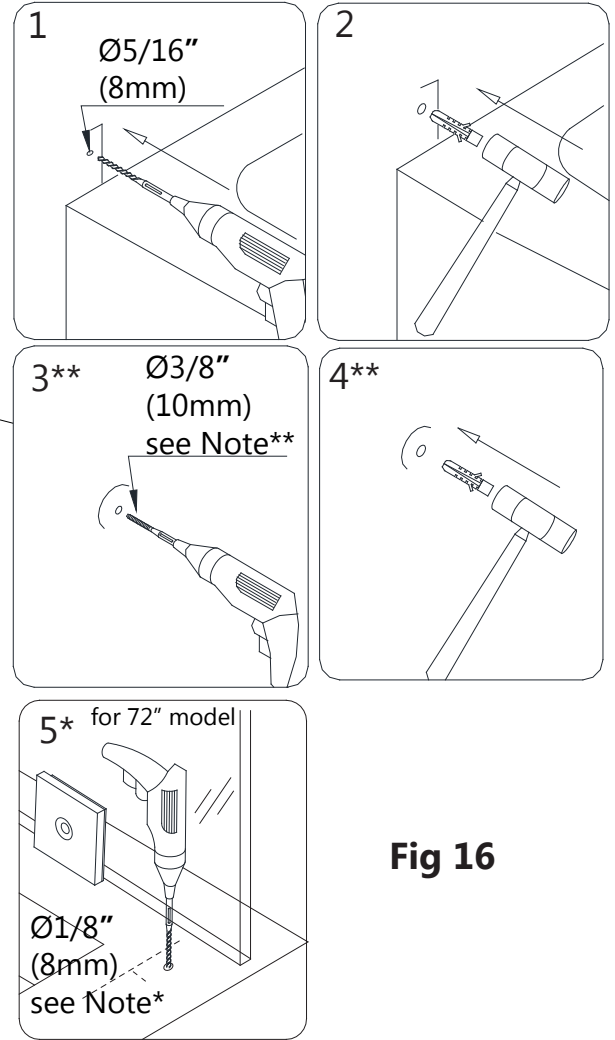

Fig 16
****If installing into a stud (recommended), drill a $\text{\O}1/4"$ hole and do not use the wall anchors (see note above).** (Fig 16)